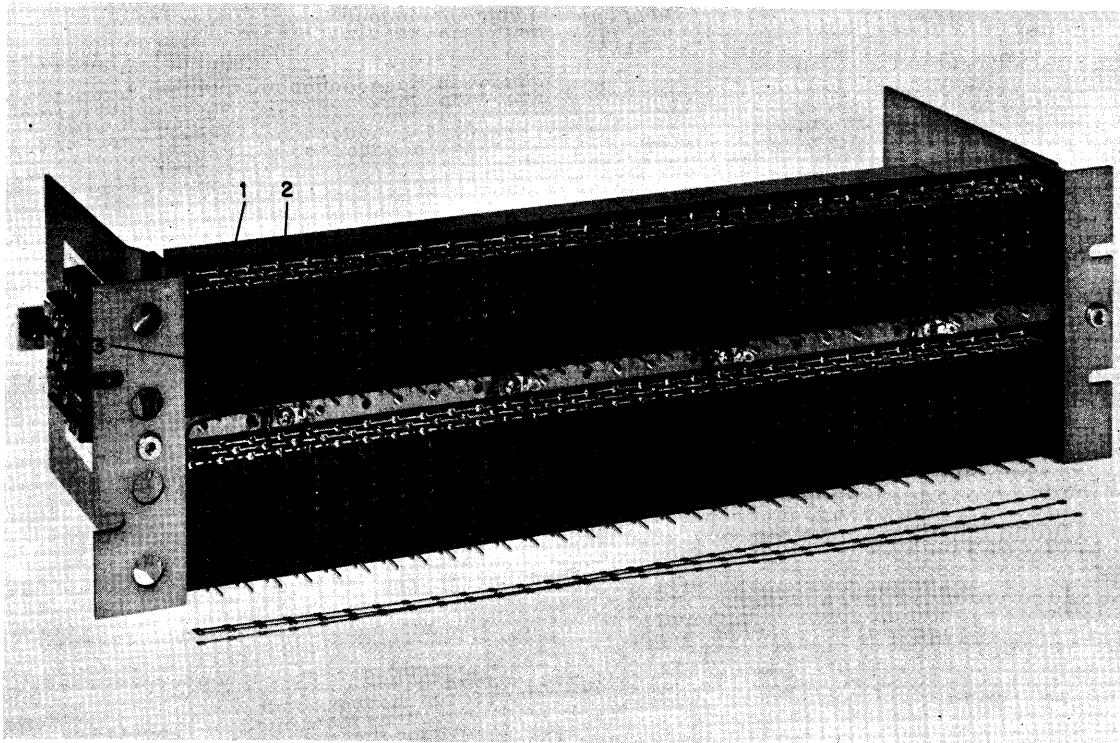

Figure 11-1 Ground Mesh
- (1) Bus the ground and power pins (pins A, B, and C) in each module row with Type 932 Horizontal Bussing Strip.
- (2) Tie the ground bus strips to chassis ground approximately every two inches (once per H800 module block) using solid wire and white spaghetti insulation.
- (3) Wirewrap all grounded pins together down each vertical module row (pins C and other ground pins). This ground mesh (see Figure 11-1) will form a good base for satisfactory logic performance.